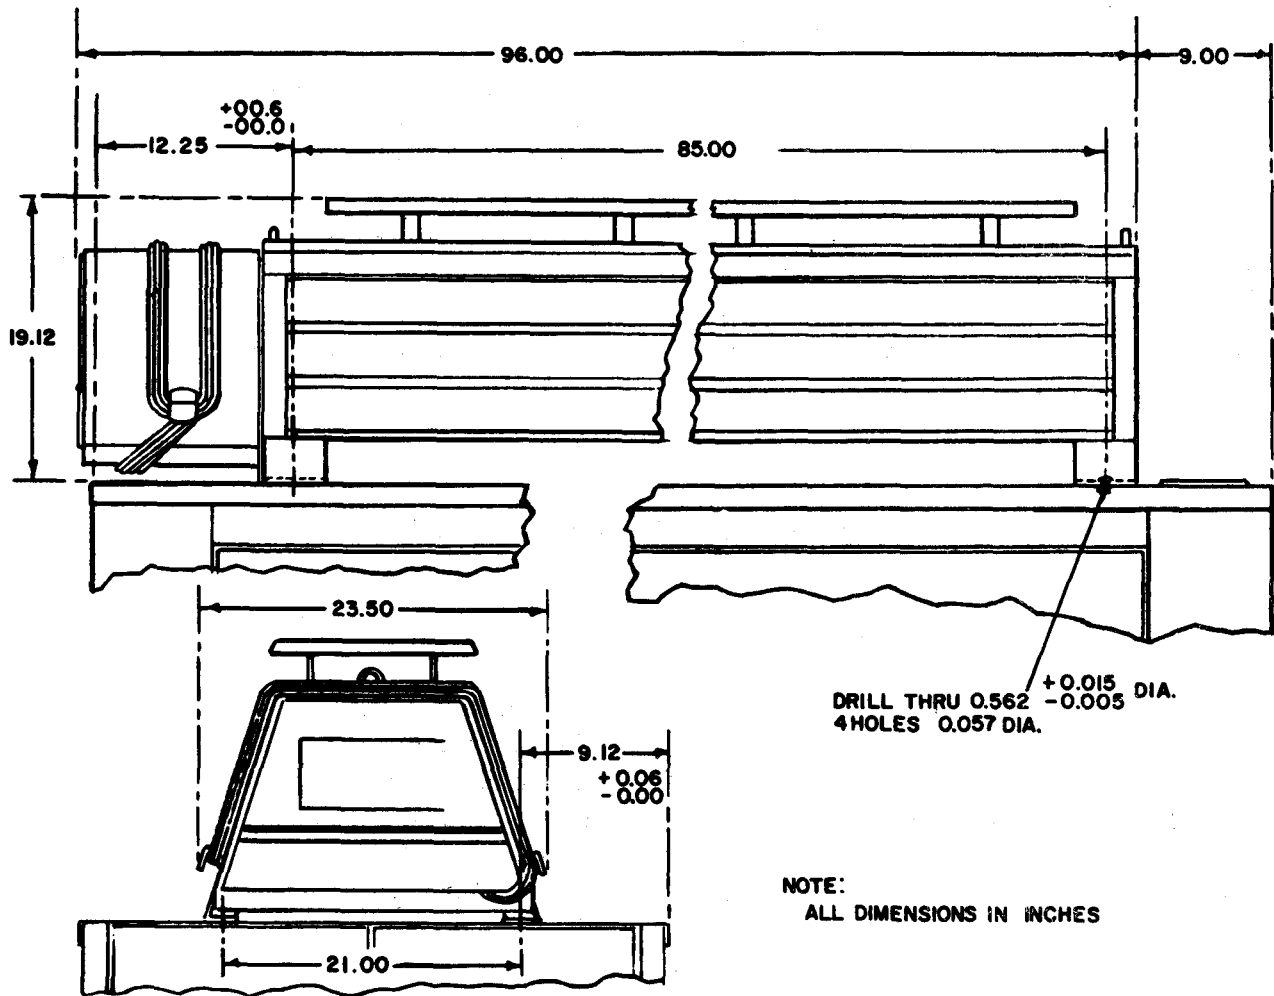

Figure 4-14. Dummy load kit drilling diagram
1. Drill mounting holes in generator roof as shown in figure 4-14.